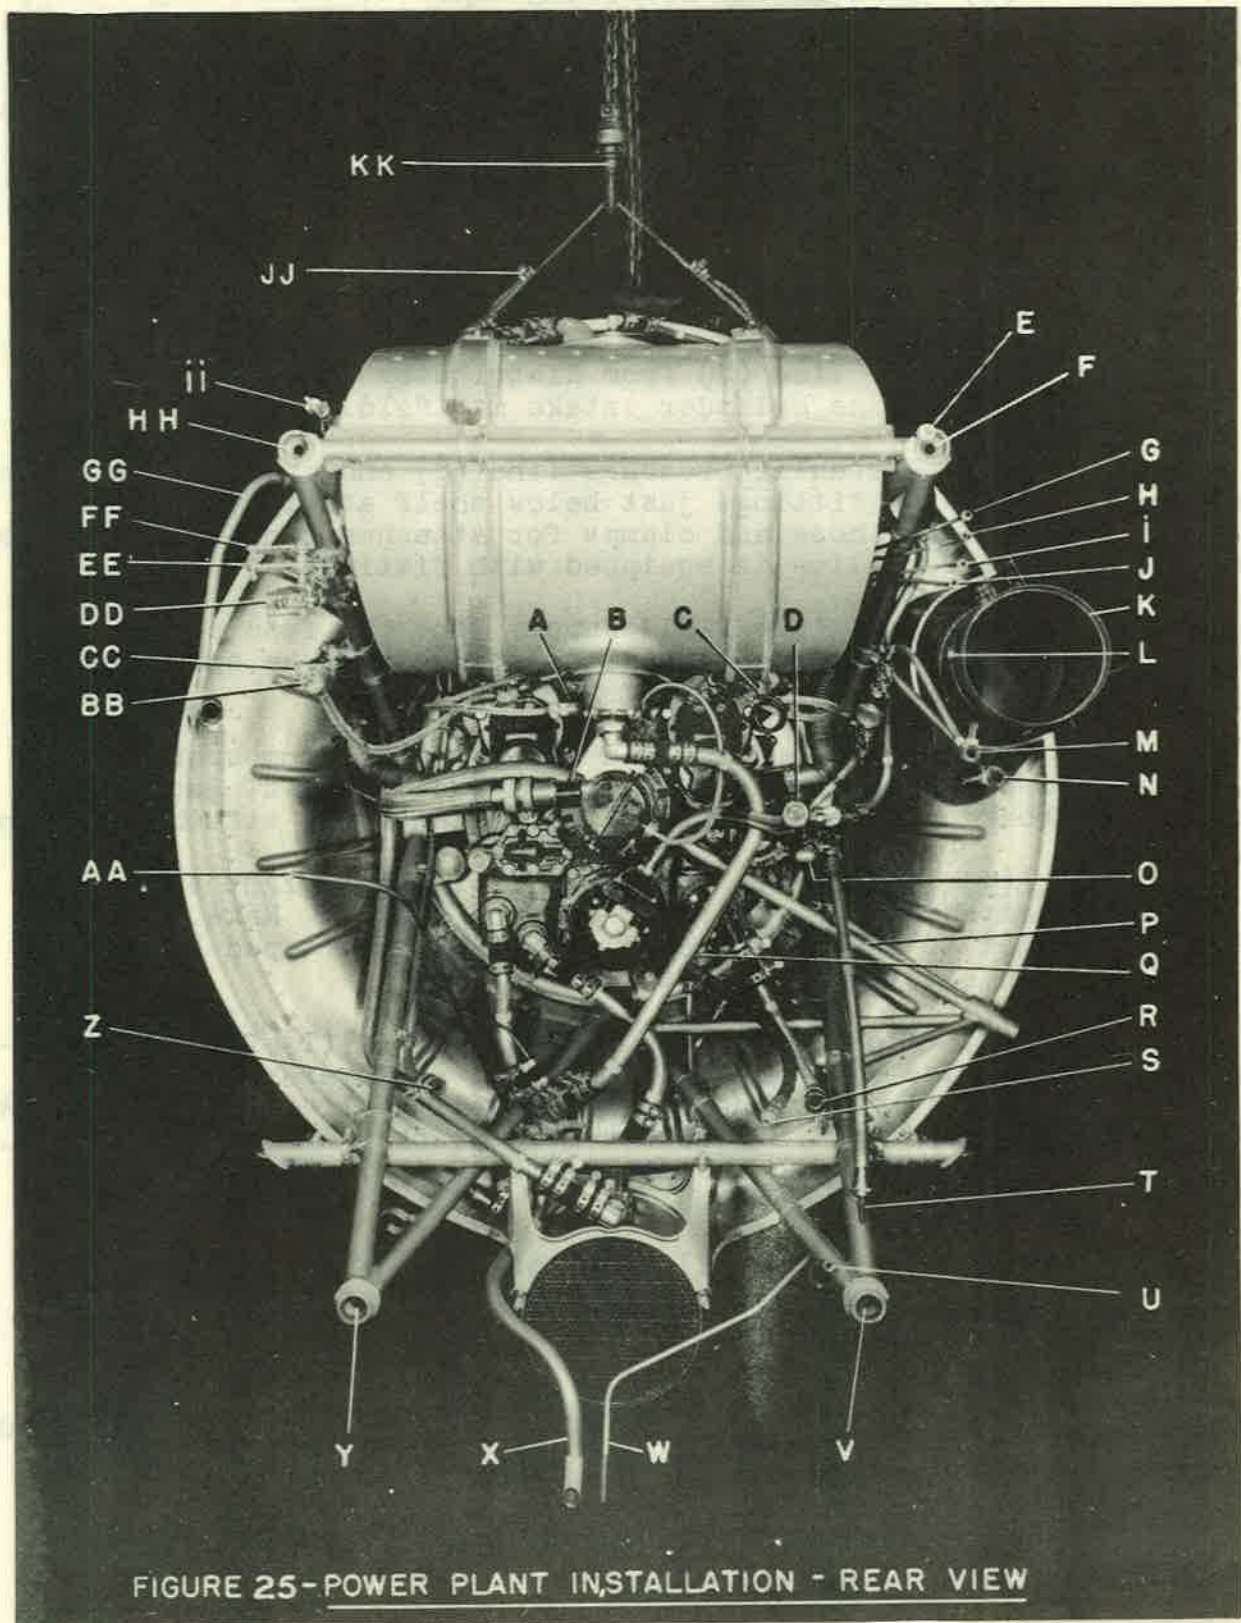

FIGURE 25-POWER PLANT INSTALLATION - REAR VIEW
(9) Install exhaust tail pipe trough cowl between engine fixed cowl and firewall, using bolts and No. 1032 Bendix set nuts.
(10) Complete engine exhaust collector installation by installing discharge section, 51-42005-10. Be sure to bolt section to support bracket located at rear of engine cylinders No. 2 and 3.
(11) Install engine exhaust front stack (K) between exhaust collector and exhaust tail pipe. (Refer to Figure 25) Attachment to collector requires a 51-42005-19 sleeve, and attachment to tail pipe requires a 25-42022 sleeve. Attach each sleeve, using three AN23-10 bolts, three B310-3 nuts (AN320-3 nuts may be used for replacements), three AN380-2-2 cotters, and one 25-42035 link. The link shall be installed at the top of each sleeve. The sleeve nuts shall be cotted so as to allow approximately 3/32 inch expansion space. Do not tighten bolts.
(12) Connect exhaust gas analyzer inlet line (L) from analyzer at left side of firewall to connecting boss on inner side of engine exhaust front stack, just forward of firewall. Safety wire connecting fitting.